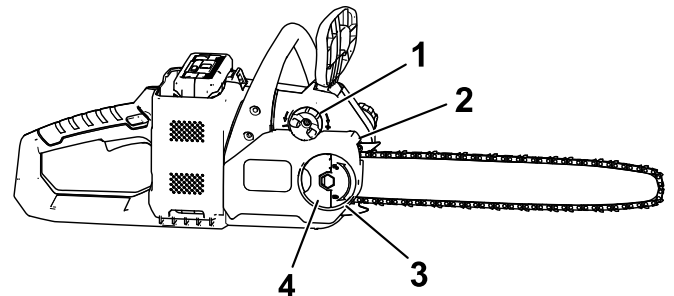

Figure 30
5. Tighten the wing nut until it is snug and fold the wing-nut tab (Figure 30).
2. Unfold the wing-nut tab and remove the wing nut that secures the cover (Figure 30).
3. Loosen the chain by turning the chain-tightening screw counterclockwise (Figure 30).